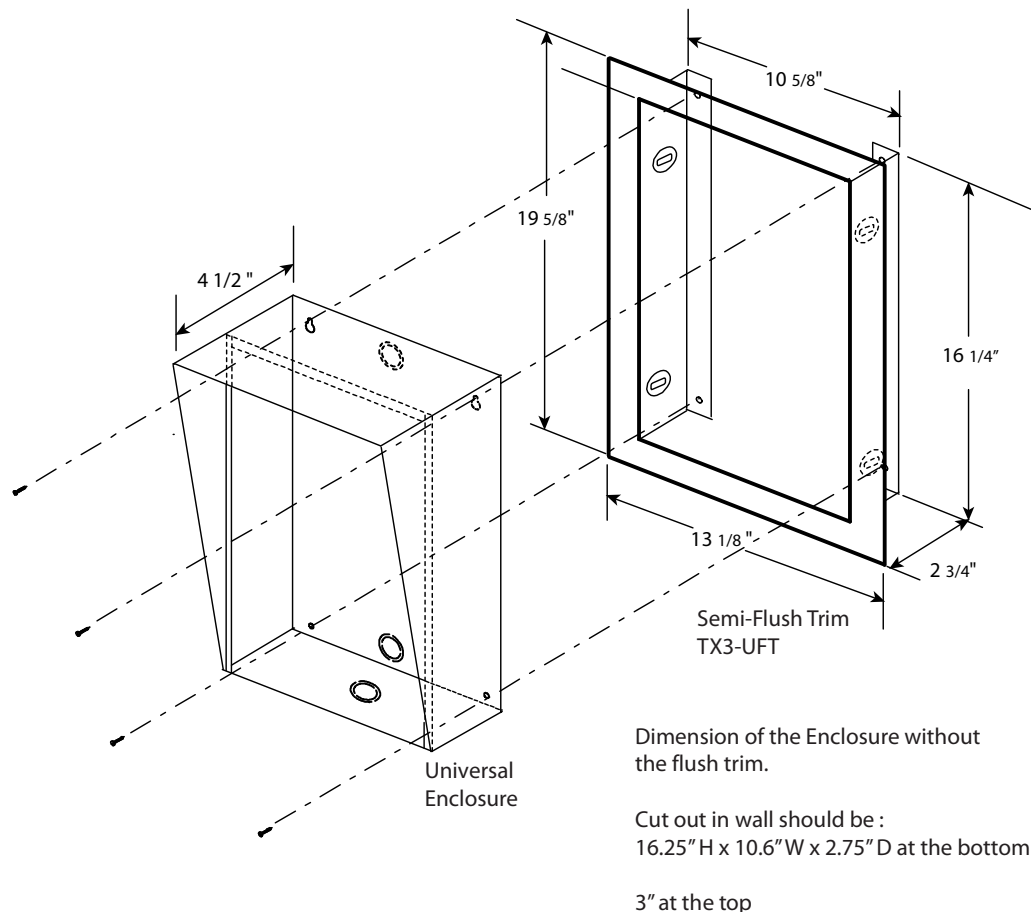

Figure 1. TX3-UFT Universal Series Flush Trim Ring
The Universal enclosure mounts inside the wall with or without the TX3-UFT Universal Series Flush Trim Ring TX3-UFT. This Trim Ring houses the universal series enclosure as shown in Figure 1.
4. Using the semi-flush trim ring as a template, insert the trim ring into the wall cut out and mark the top mounting hole location as shown in Figure 1. Ensure that at least one side is beside a wall stud.
10. Secure the universal enclosure into the trim ring using the supplied four screws as shown in Figure 1.
2. Using the Universal enclosure as a template, mark the two side mounting hole locations as indicated in Figure 1. Ensure that at least one side is over a wall stud.
3. Using the semi-flush trim ring as a template, insert the trim ring into the wall cut out and mark the top two mounting hole locations as shown in Figure 1.
1. Using the semi-flush trim ring as a template, insert the Universal enclosure into the wall cut out and mark the top two mounting hole locations as indicated in Figure 1.